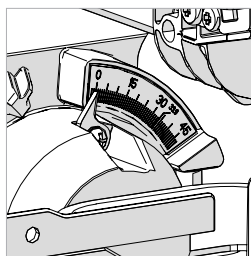

Fig. 47
- Tilt the cutting head to the required angle. An angle scale is provided as an aid to setting. (**Fig 47**)